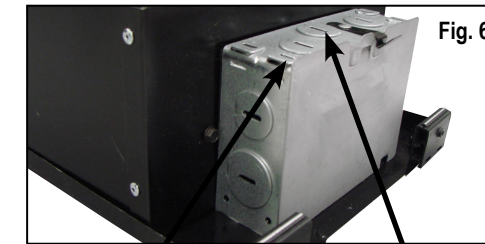

Fig. 6
2. Remove the junction box cover and attach the electrical service as follows: (Fig. 6)